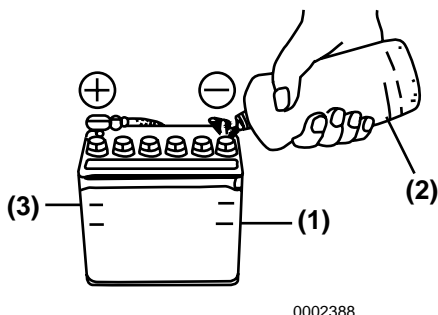

Figure 3
4. If the level is lower than the minimum fill level (**Figure 3, (1)**), fill with distilled water (**Figure 3, (2)**) (available locally) up to the upper limit (**Figure 3, (3)**) of the battery.